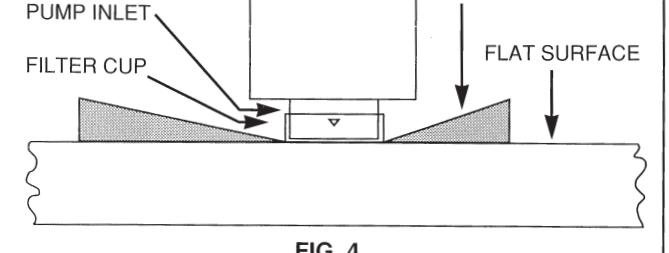

FIG. 4
D) Install the new filter on the pump in the same orientation as the original filter. Place the filter on a clean flat surface and firmly press the pump down into the filter until it snaps into place and is fully seated on the pump. (See Fig. 4)